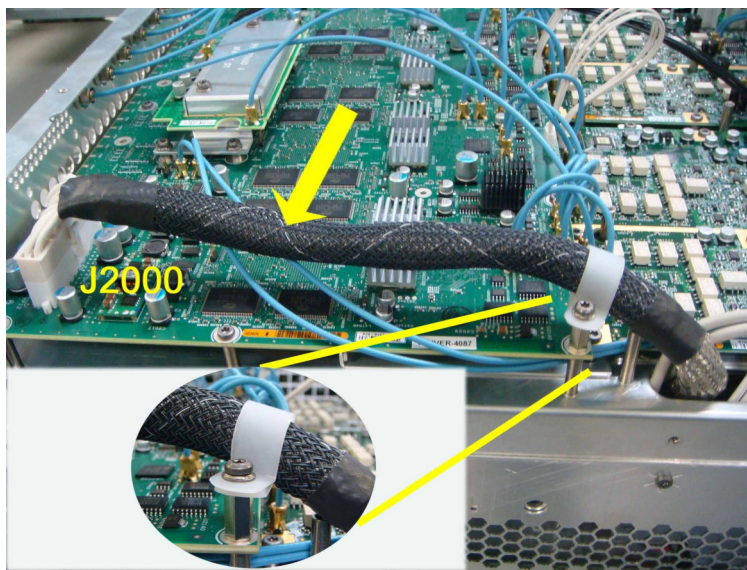

Figure 29: Cable post on the AWG1G board (4 CH)
3. Remove the screw securing the cable post to the AWG1G board, and then remove the cable post. (See Figure 29.)